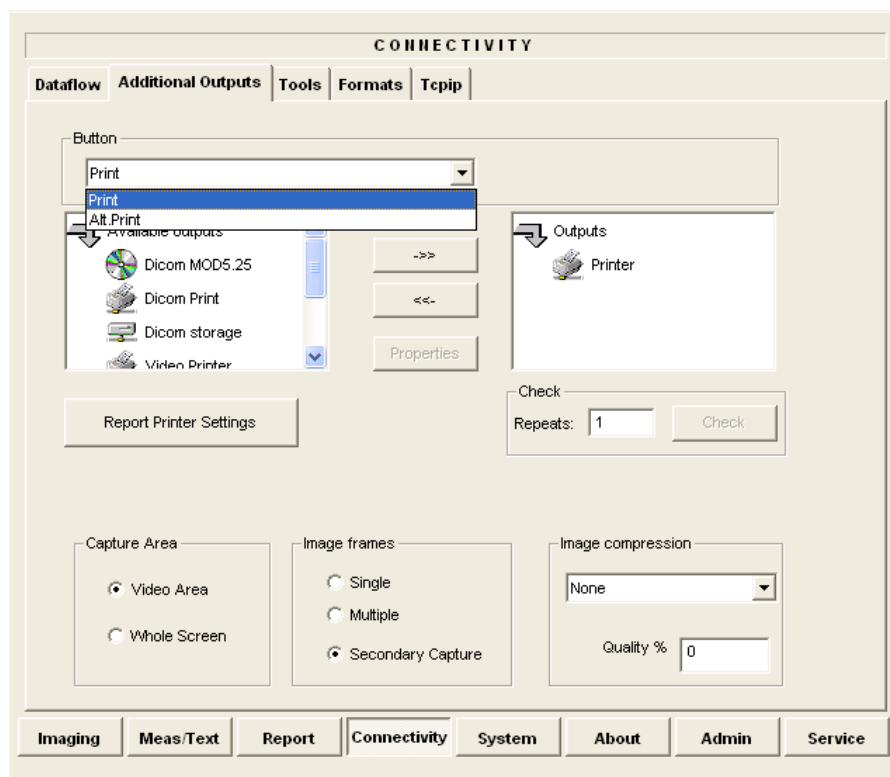

Figure 3-37 Configuring Control Panel Hot Keys for Printing
- 4.) From the Button drop-down menu (see Figure 3-37), select to configure either the **Print** button or **Alt+Print** to activate a variety of outputs.